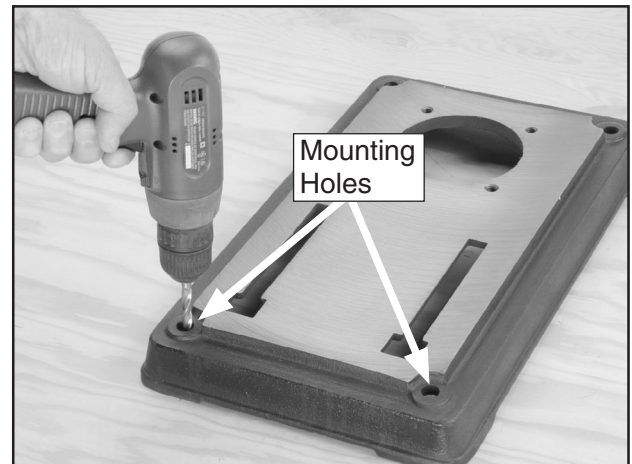

Figure 15. Using holes as a drilling guide.
2. Using holes in the base as a guide (**Figure 15**), drill and bolt the base to the bench top using 1/2" lag bolts, or hex bolts, flat washers, and hex nuts.